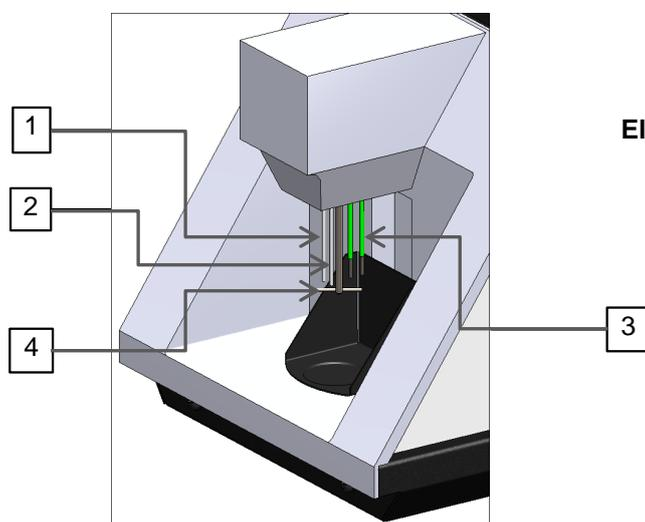

Figure 5.3
10. If necessary, adjust the vertical position of the anode, Item 2, Figure 5.3, so that it is the same length as the other electrodes.